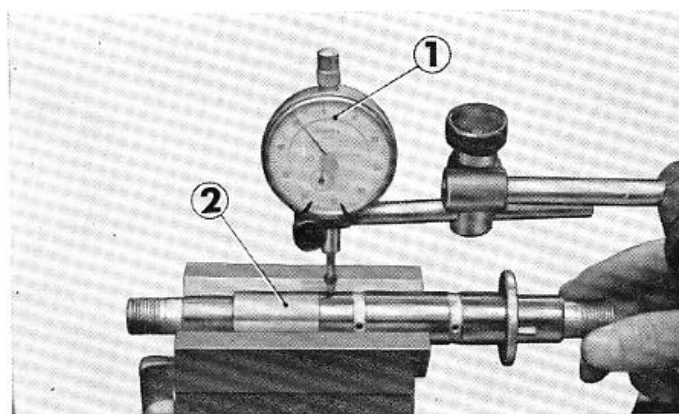

Fig. 4-21 ① Dial gauge
5. Rear wheel axle diameter, bend, wear. (Fig. 4-21)